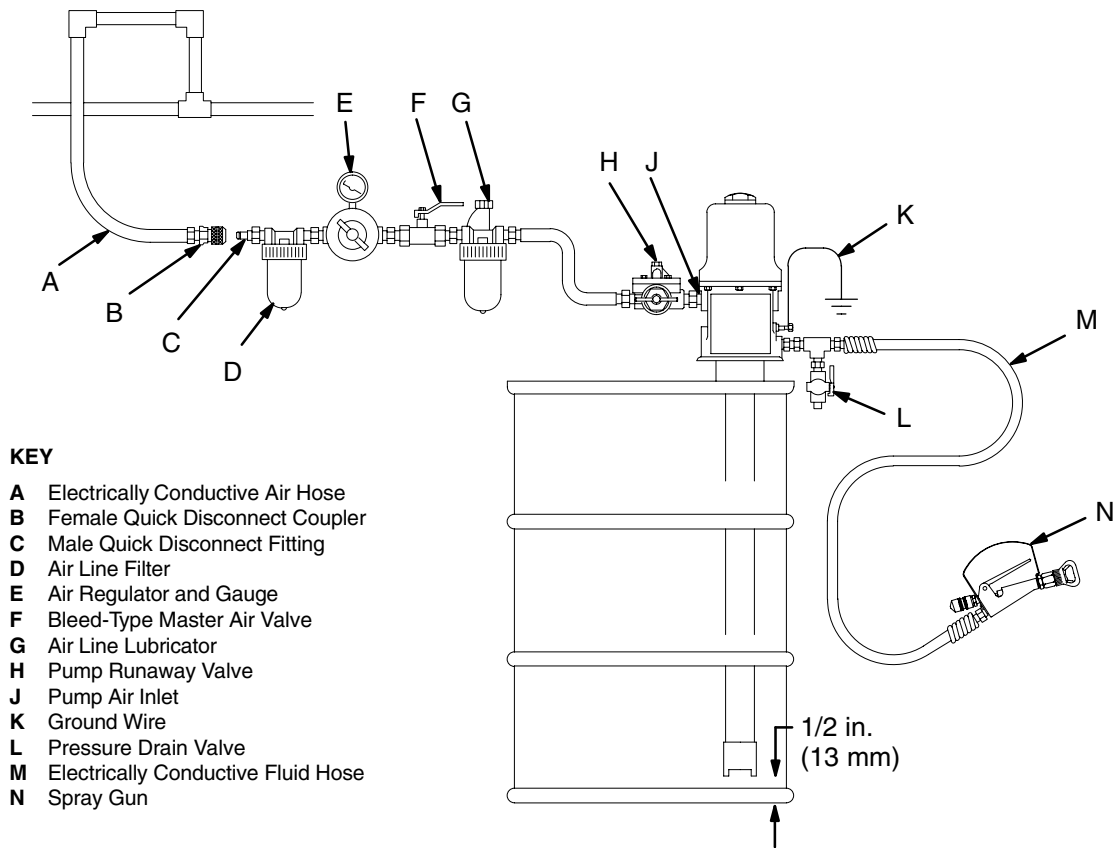

Fig. 1
Figure 1 is only a guide to selecting and installing optional and required accessories. For help in designing a system to suit your needs, contact your Graco distributor.
**NOTE:** Install the accessories in the order shown in Figure 1.
- **A pump runaway valve (H)** shuts off the air to the pump if the pump accelerates beyond the pre-adjusted setting. A pump which runs too fast can be seriously damaged.
- **An air line lubricator (G)** provides automatic air motor lubrication.
- **A bleed-type master air valve (F)** relieves air trapped between it and the motor when the valve is closed. Order Part No. 107142.
- **The air regulator (E)** controls pump speed and pressure.
- **An air line filter (D)** removes harmful dirt and contaminants from your compressed air supply.
- **A drain valve (L)** is required near the pump fluid outlet to relieve fluid pressure in the pump, hose and gun. Order Part No. 210657.
- Install an electrically conductive **fluid hose (M)** and **spray gun (N)**.